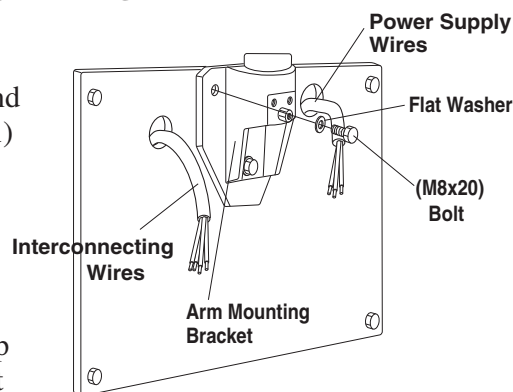

Fig.3-2 Arm Mounting Bracket Installation
1. Using three (M8 x 20mm) bolts with washers in top mounting holes and in lower mounting hole, mount arm mounting bracket to wall plate. (**Fig.3-2**)